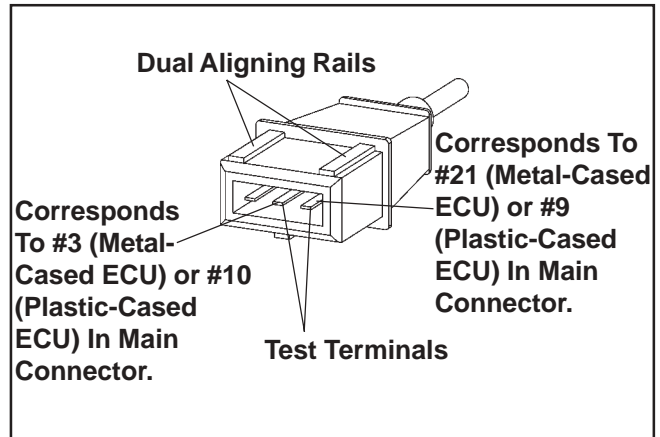

Figure 5B-5. Speed Sensor Connector.
6. Disconnect the speed sensor connector from wiring harness. It is the connector with one heavy black lead (see Figure 5B-5). Viewing the connector as shown (dual aligning rails on top), test the resistance between the terminals indicated. A reading of $750\text{-}1000 \ \Omega$ should again be obtained.